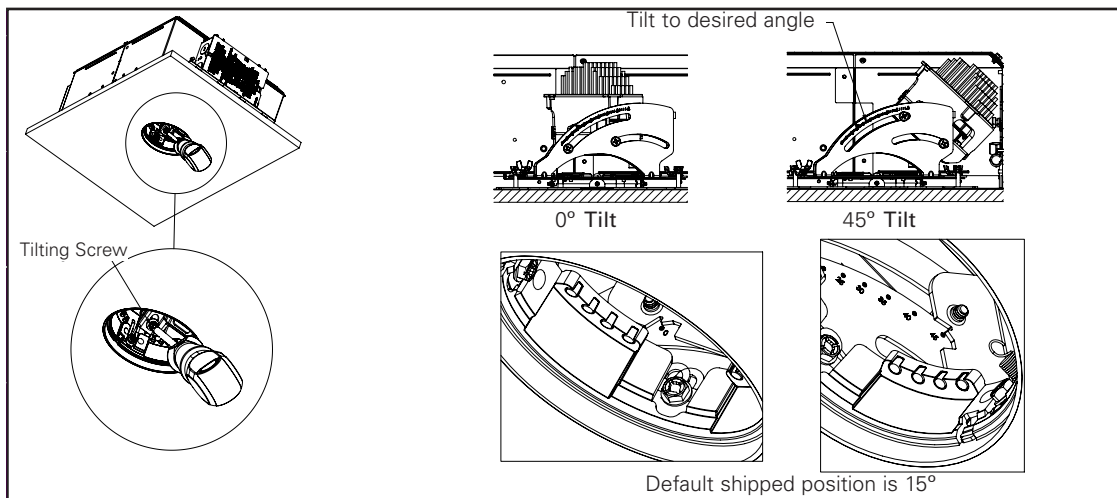

Figure 14.
1. Tilt the mechanism by turning the tilting screw in the clockwise direction (Figure 14). Reference the angle dial on the mechanism assembly for determining tilt angle.
1. Make sure that the mechanism 0-degrees downlight position (see figure 14)
2. Make sure that the mechanism 0-degrees downlight position (see figure 14)